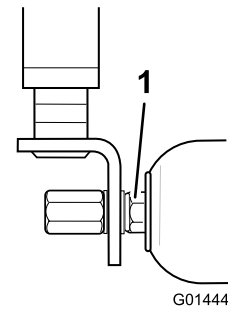

Figure 79
2. If there is excessive movement, carefully tighten the nuts at each end of the roller with the wrench just enough to remove any end play (Figure 79).